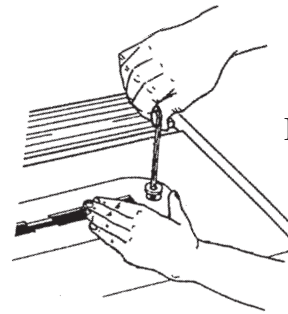

Figure C-47
45. First tighten the rear screw. Then the front of the insert will be sprung slightly above the table. Level the insert by placing your hand on the front of the insert, as in Figure C-47, and slowly turning the front screw until it draws the front of the insert flush with the worktable surface.